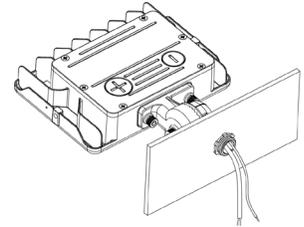

Fig. 1.6
6. Pass threads of knuckle mount through mounting surface and secure with lock nut (Fig. 1.6).